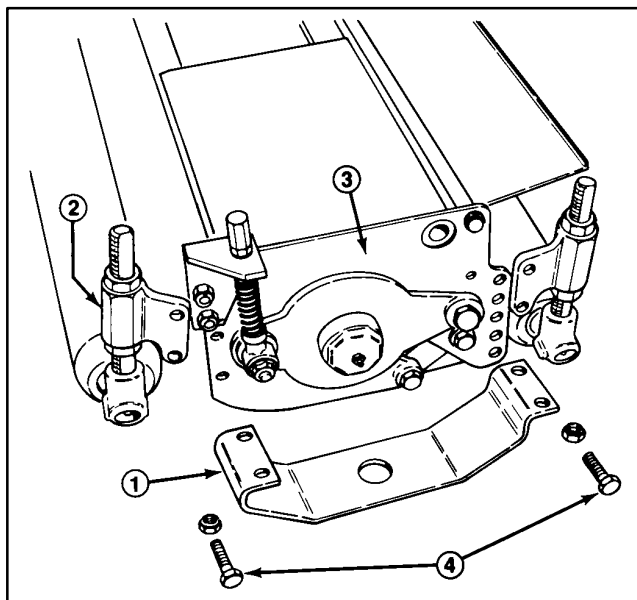
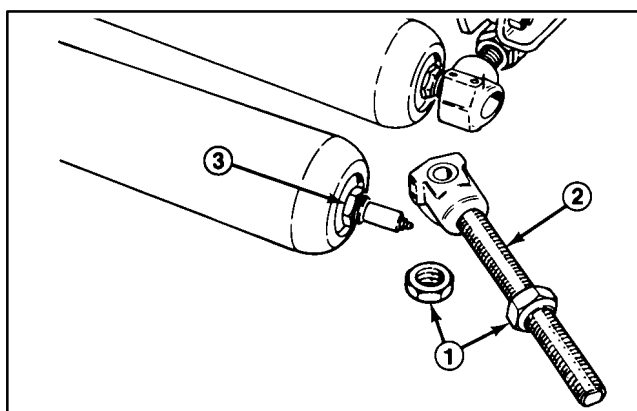

Figure 24
Figure 25
1. Remove the fasteners securing the guard and roller adjustment housing to the side plate (Fig. 24) or unscrew the upper cone nut and drop the threaded rod out of the adjustment housing (Fig. 25).
2. The threaded rod and collar assembly can be removed from the roller by sliding it off the shaft at both ends (Fig. 25).
IMPORTANT: When assembling a new roller to the cutting unit mount the roller so that the roller shaft "locknut" is on the right side of the cutting unit (Fig. 25). (As viewed by the operator sitting on seat of machine). This prevents the lock nut from loosening during operation.